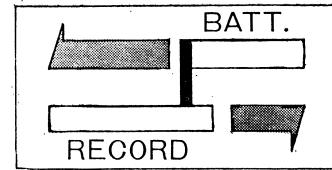

fig. 3
VR-3 (B-40K) is intended to adjust the meter if its point is not stable. To adjust the meter, set the power voltage to 5.5 volts and press PLAY+REC push button on switch (2). Rotate VR-3 observing the pointer and set the pointer on the end of BATT. (See fig. 3)